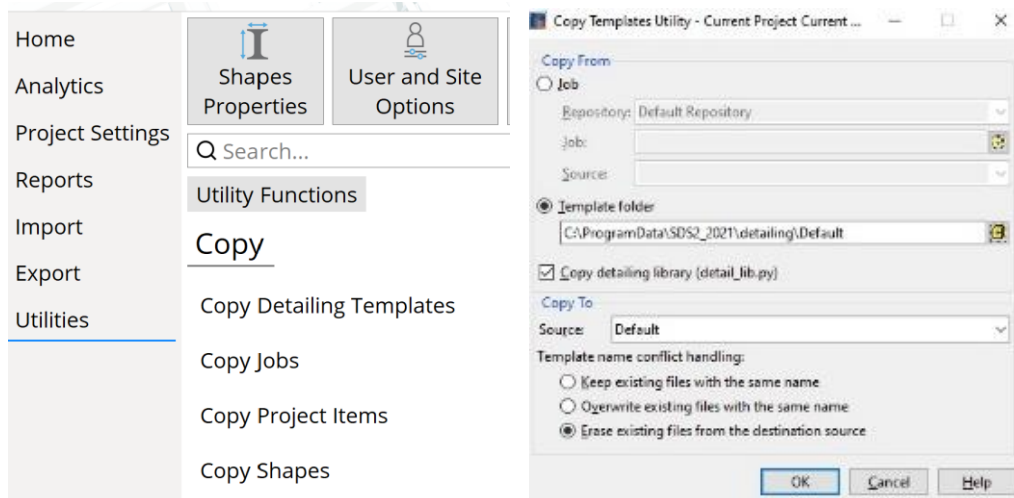

Figure 19. Copy Templates Utility Screen
- 4) On the *Copy Templates Utility* screen (see Figure 19):